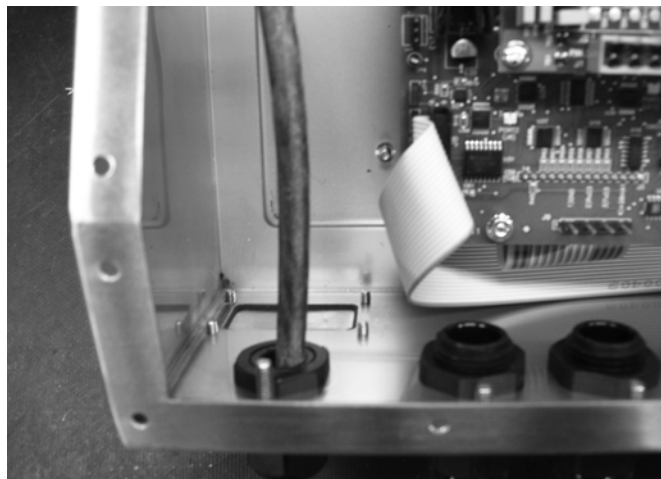

Figure 4. Install Power Cord into Enclosure
5. Install cable and cord grip by running it through the enclosure, Figure 4.